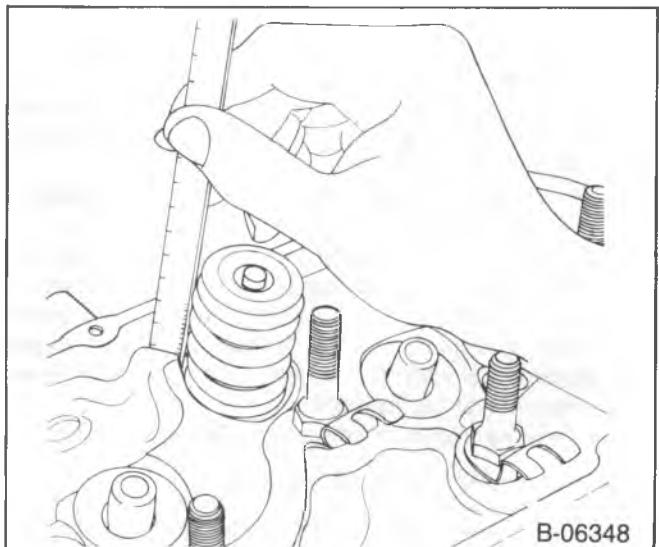

Figure 41—Measuring Valve Spring Installed Height
- 2. Measure from the valve shim or spring seat to the top of the shield (18) (figure 41).